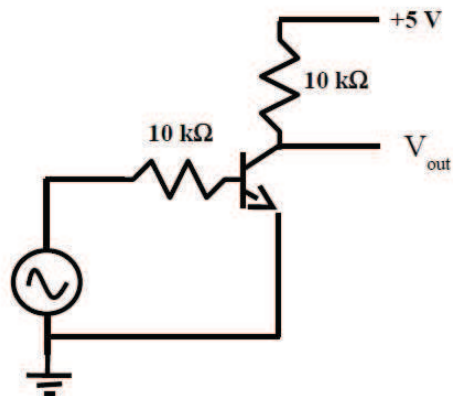

Figure 5: Circuit to amplify voltage with a transistor
The circuit shown in Fig. 5 functions as a voltage amplifier.
- Set up the circuit in Fig. 5. Measure the resistors to make sure they are both 10 kOhms and record the values in your lab book. Do not power up the board until you have carefully checked the circuit and you have completed the next step.